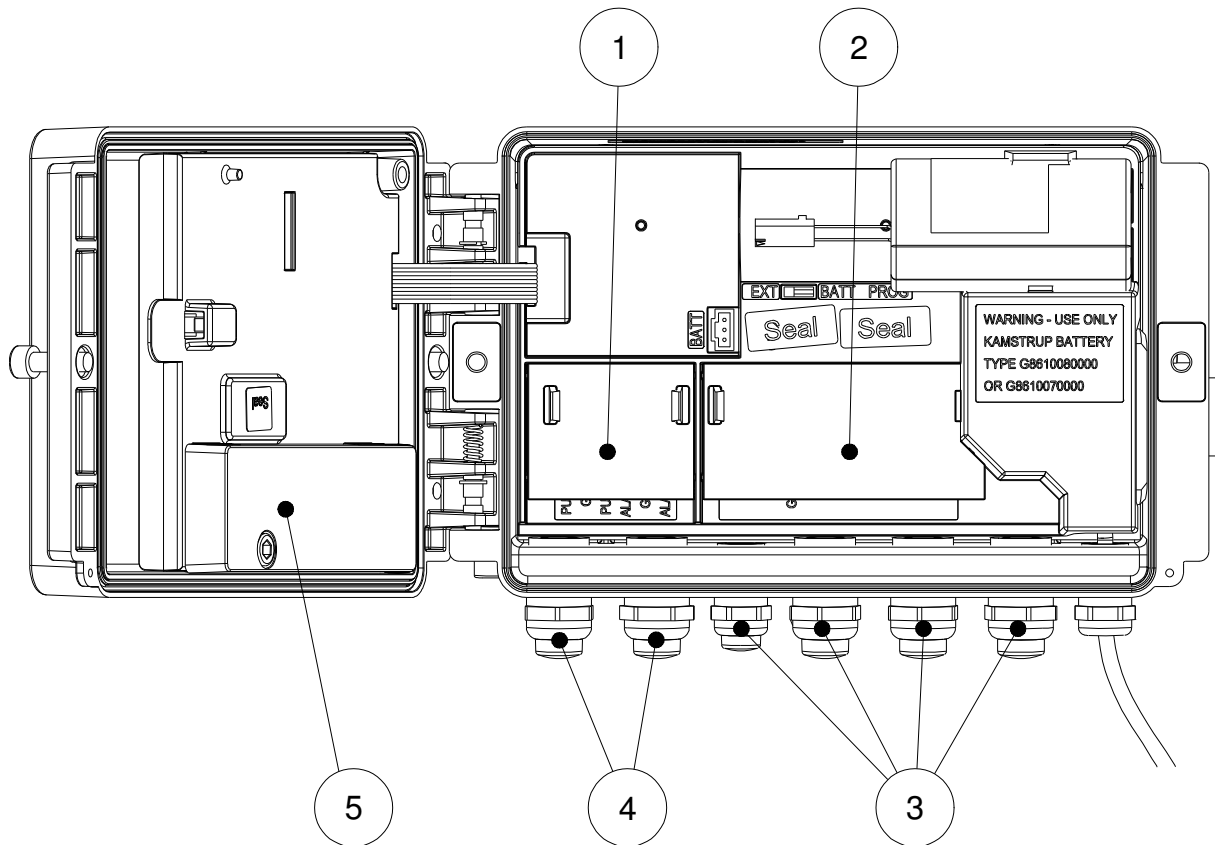

Figure 1. Covers and cable glands for inputs and outputs
6. Cables must only be fed through cable glands intended for that purpose, see figure 1.
7. The transparent synthetic covers of the inputs and outputs must be in place, see figure 1.